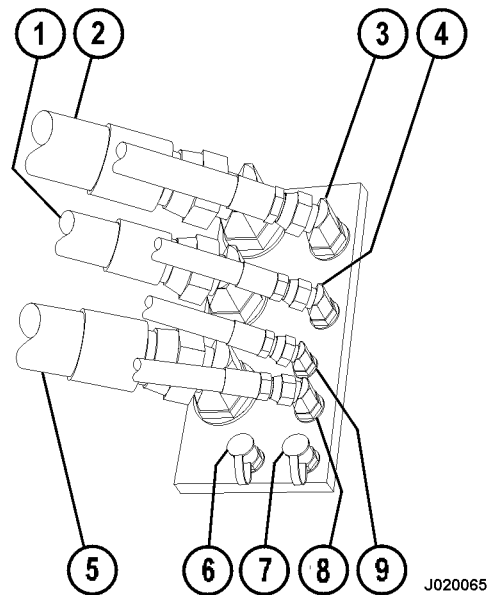

FIGURE 4-3. REAR BRAKE HOSES
23. Move both 20 685 kPa (3,000 psi) pressure gauges to "LBP" (7, Figure 4-3) and "RBP" (6) test ports on the manifold on the left side of the rear axle housing.